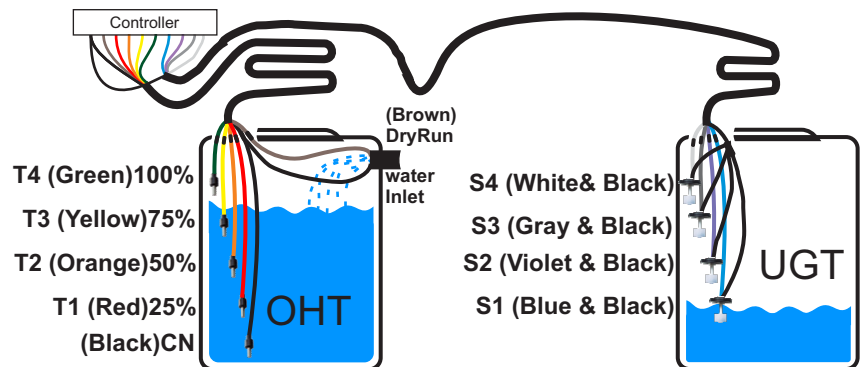

Figure4: sensor connection
Step 5: Lay 6 core cable between controller and Over Head Tank (OHT). Also lay 6 core cable between controller and Under Ground Tank (UGT). Join one end of the cables to sensor line connector of controller as per label. In tank side, **Contact type sensor connection:** Take the sensors and cut them according to the levels of tank and join them with the cable as per label coded. (Refer figure. 4 OH tank setup for Contact type sensor connection) **Magnetic float sensor connections:** These Sensor has 2 wires, Use any one wire in each sensor as common. Other wires left in each can be used for levels. Join them with the cables as per label coded. (Refer figure. 4 UG tank setup for Magnetic float sensor connection)
Step 7: Immerse the Sensors inside the OHT & UGT as per Figure 4, and tape it. This completes installation.